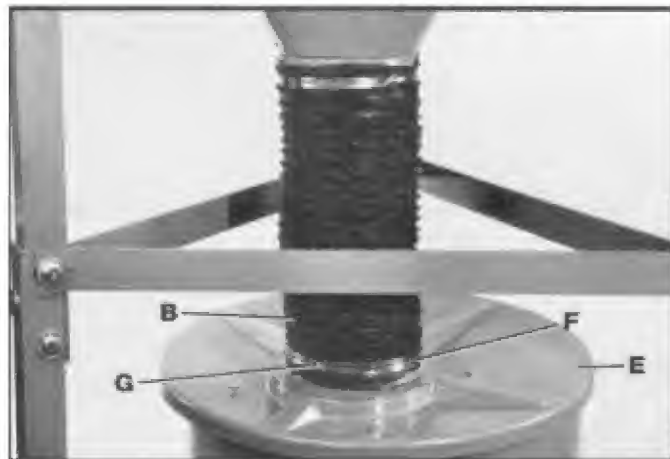

Fig. 26
4. Turn drum lid (E) Fig. 26, over and set on 55 gallon drum (not supplied).
5. Slide clamp (F) Fig. 26, over free end of hose (B). Assemble hose (B) over flange of drum lid (E), slide clamp (F) downward over flange and tighten screw (G).